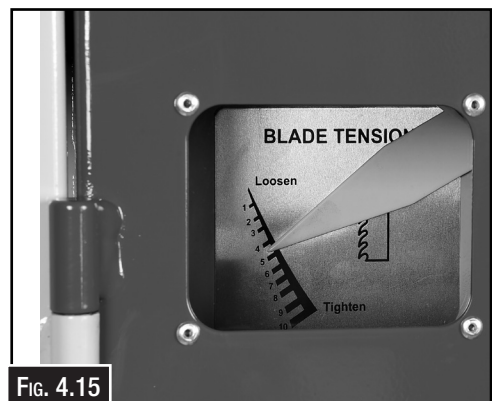

FIG. 4.15
8. Note what the tension gauge reads. Use that as a guide for tensioning that specific blade in the future. (Fig. 4.15)